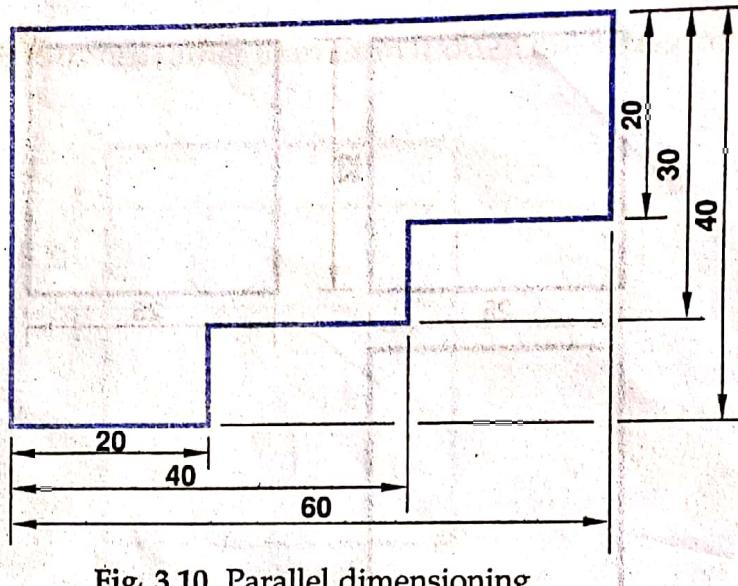

Fig. 3.10 Parallel dimensioning
- (ii) **Parallel dimensioning.** When a number of dimensions of a part have a common datum feature. See Fig. 3.10.